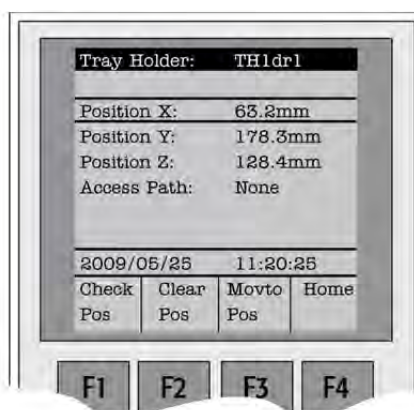

Figure 24. Menu Screen Object Tray Holder
- After selecting "Named Tray Holder", the X-, Y-, Z- positions associated with the object will be displayed (see Fig. 24);